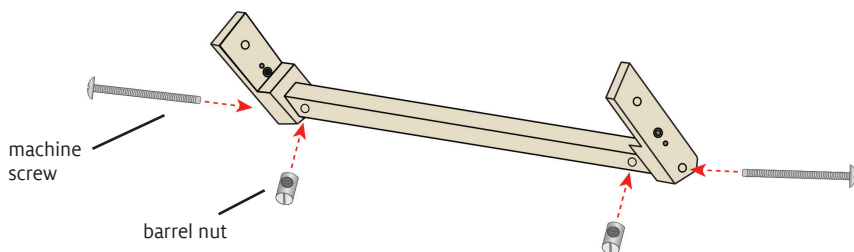

FIGURE 3: ATTACH OUTSIDE BLOCKS TO REAR LEG BRACE
5. From the outer side of the height extender block, insert one of the machine screws from step 2 into the bottom hole (Figure 3). Insert a barrel nut into the hole of the rear leg brace, holding it in place with a slotted (flat) screwdriver. Fully tighten the machine screw into the barrel nut.